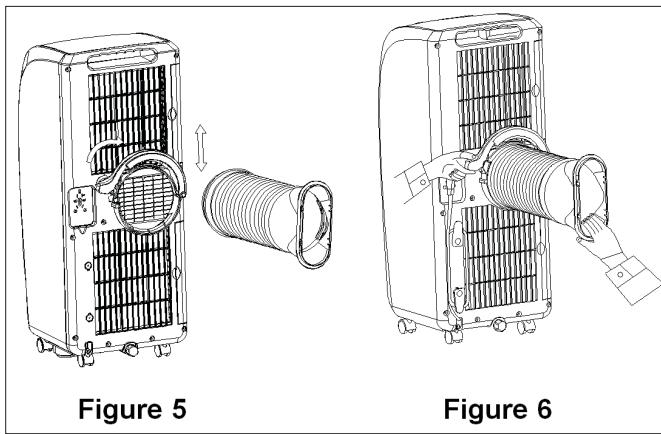

Figure 5
- Lift up the C shape buckle with one hand and place with your other hand the short connector of the heat exhaust hose in de recess on the back of the unit. (as shown in Figure 5).
- Lock exhaust hose firmly by pushing the C shape buckle downwards until it clicks. (as shown in Figure 5).